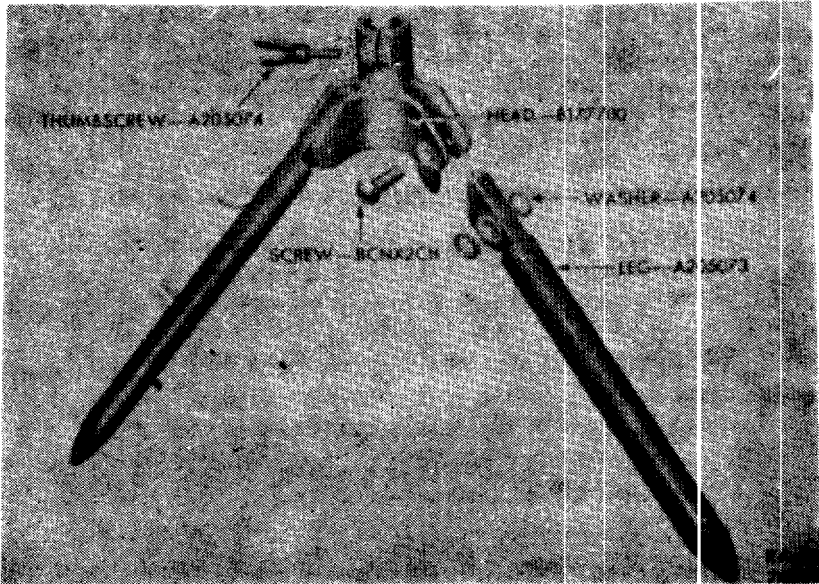

Figure 24-Tripod M14-Leg Assembly-Partially Disassembled
**b. Disassembly of the Leg Assembly.** Remove the screws BCNX2CH that hold the legs to the head (fig. 24). Remove the washers. Pull the legs from the head.